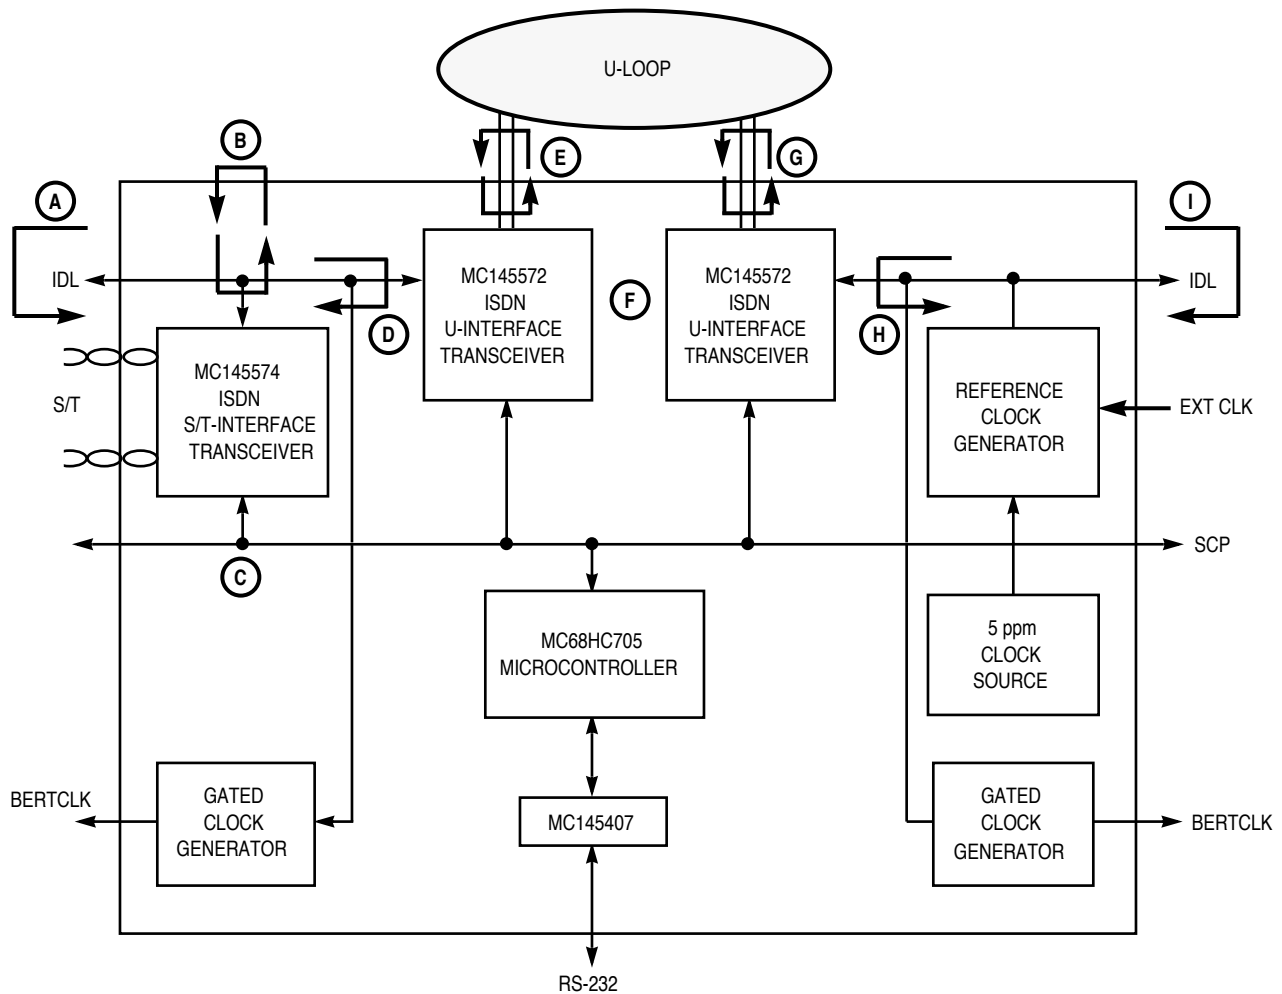

Figure 2-8. Loop-Back Modes for the MC145572EVK
2.5.1.1 OTHER LOOP-BACK TESTS. A variety of other loop-back modes may be implemented. Some modes are accessible through the activation menu while others require a working knowledge of the SCP registers and are accessed through the command line interface of the monitor program. Refer to Figure 2-8 and the text that follows for a description of some of these loop-backs. Refer also to the MC145572 data book loop-back section. The menu items referred to are for the combined NT/LT mode.